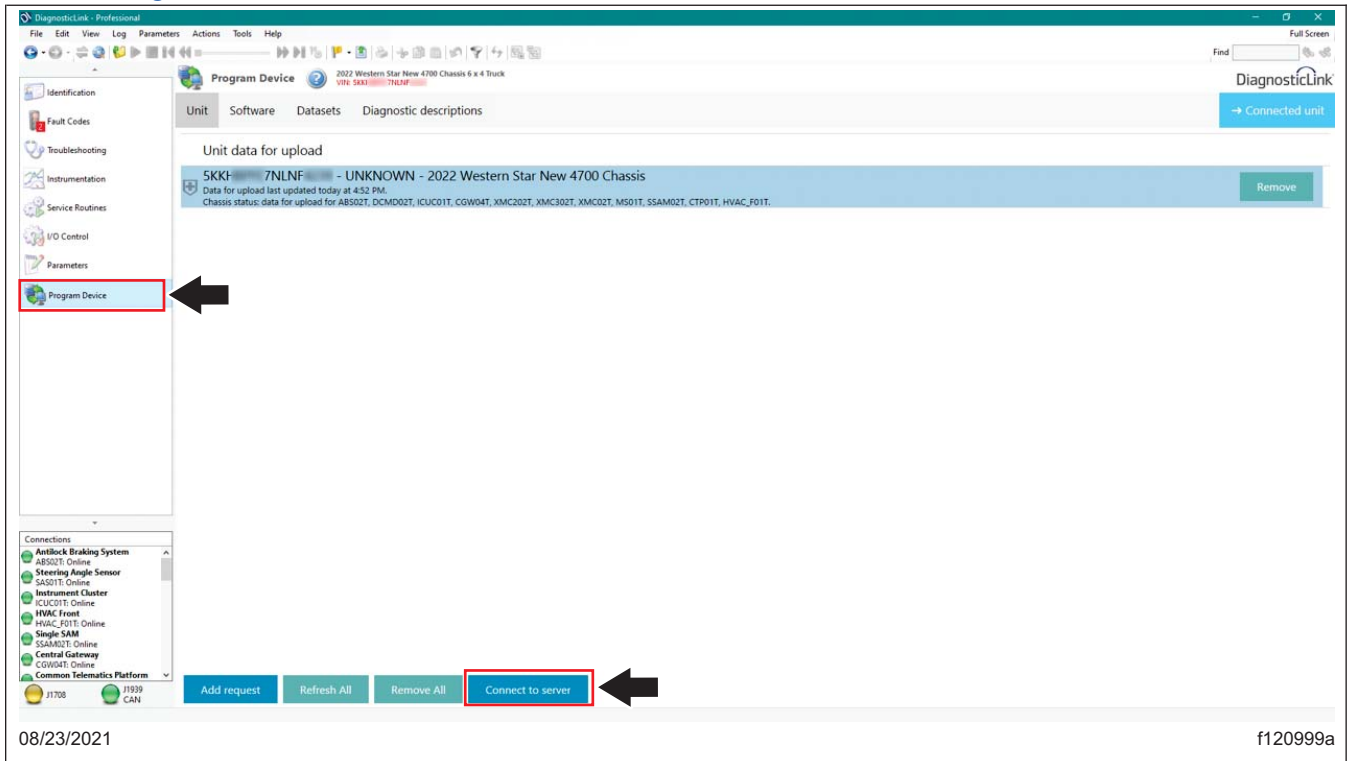

Fig. 3, Uploading Vehicle Parameters to Server
- Go to 'Program Device,' and select 'Connect to Server' to upload the vehicle parameters to the server. See Fig. 3.